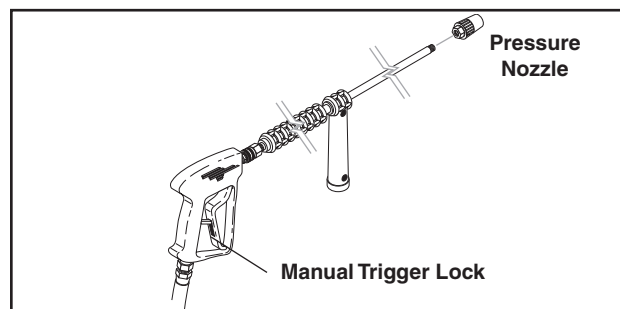

Figure 8 - Nozzle Installation/Manual Trigger Lock
5. Refer to **Converting to Natural Gas** and follow steps 11 through 13 except use LP Vapor Conversion Kit instead of Natural Gas Conversion Kit. (Refer to **Figure 8.**)
8. Install the pressure nozzle on end of wand, (refer to Figure 8).
IMPORTANT: The trigger gun provided with this pressure washer is equipped with a manual trigger lock to prevent accidental operation of the trigger gun, (refer to Figure 8). The trigger lock should be used whenever the trigger gun is not in use.